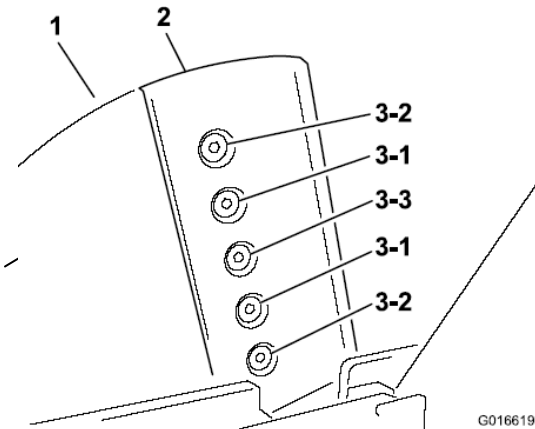

Figure 31
2. Rotate the flywheel using a stick until the bolts and lock nuts attaching the cutter blades to the flywheel are accessible (Figure 31).
5. Tighten the center screws and nuts first, then tighten the outer screws and nuts, and finally tighten the inner screw and nut. See sequence for tightening (Figure 31).